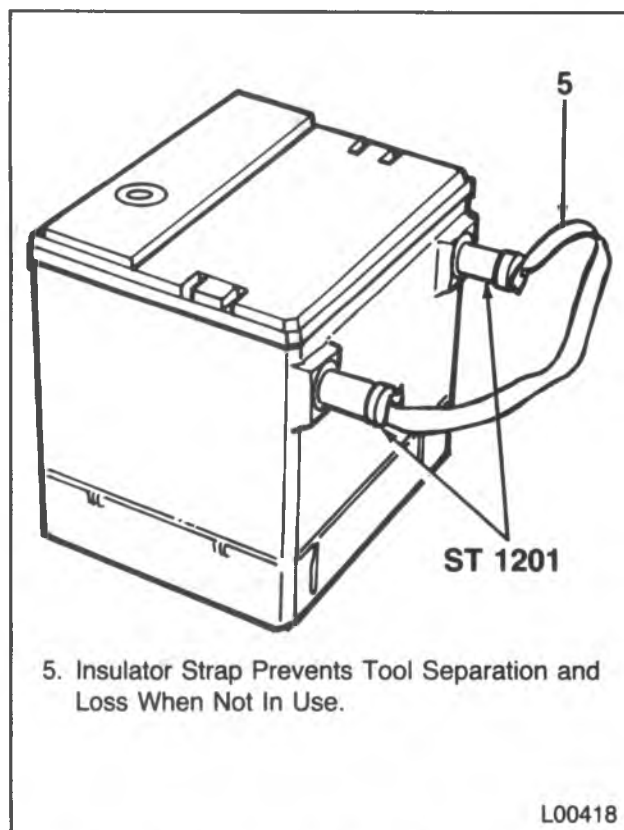

Figure 3 — Testing and Charging Terminal Adapter
2. Install adapter AC-Delco ST 1201 or equivalent (figure 3).